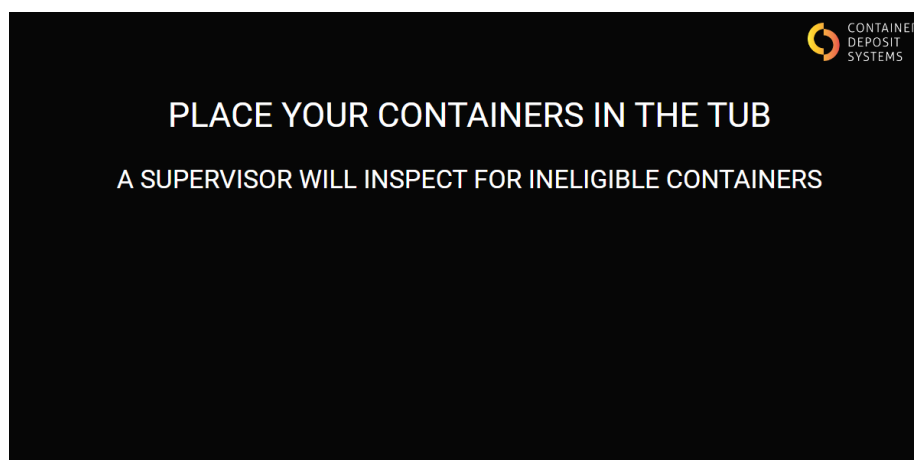

Figure 24. Home Screen
- Ensure the ART is in the home screen as displayed on Figure 24. Home Screen